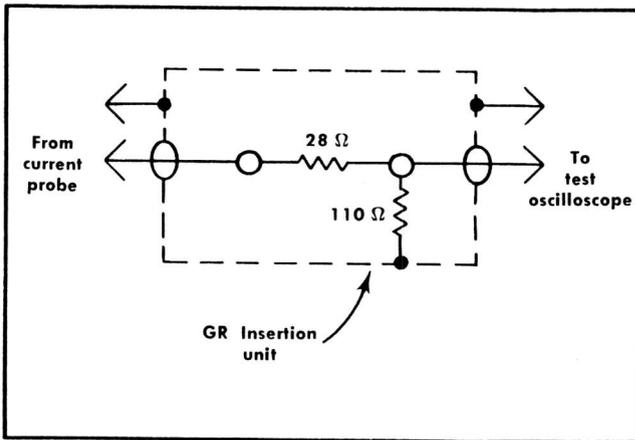

Fig. 5-2. Impedance matching network constructed in GR insertion unit.
To eliminate interaction of current probe and termination adjustments when performing calibration, the probe is adjusted using a standard 50-ohm termination. However, a special impedance matching network must be constructed to match the 62.5-ohm probe cable to the 50-ohm termination. Using a GR insertion unit, construct the network shown in Fig. 5-2. Mark the insertion unit for direction and place the cover over the openings.
- d. To the input of the test oscilloscope, connect a 50-ohm GR to BNC termination, a 50-ohm GR 2× attenuator, the insertion unit (see Fig. 5-2 for direction), a GR to BNC female adapter, and the P6021 Current Probe. Clamp the probe around the conductor in the Calibration Fixture and move the slider all the way forward.